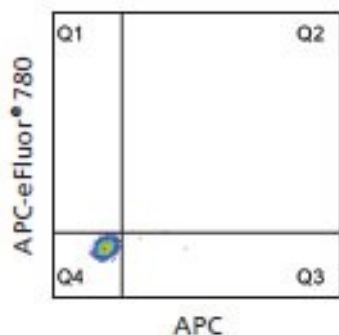

Figure 2 Unstained sample.
- b. Looking at the two-parameter plots, create quadrant regions on each plot such that the cells fall within the lower left quadrant (Figure 2).